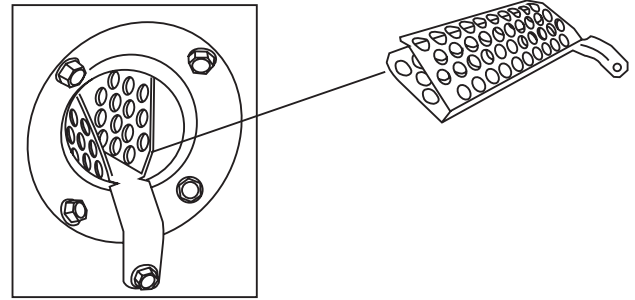

Fig. 4 - NOx Device Location
- a. Remove the screw underneath the heat exchanger inlet that secures the NOx device in the heat exchanger. (See Fig. 4.)